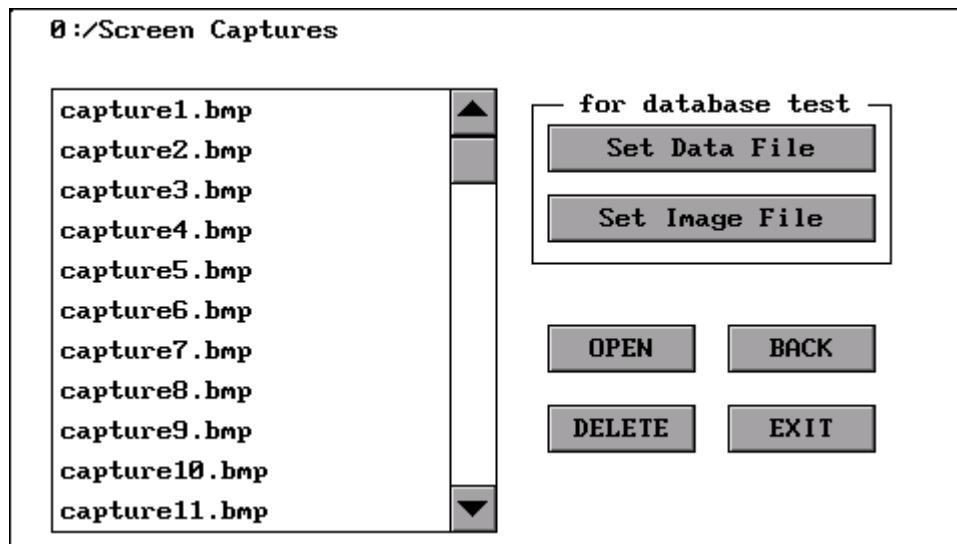

Figure 22. Screen capture folder
**0:/Screen Captures** folder is where screenshots are saved (Figure 22). When the desired file is selected from the list and the **OPEN** button is pressed, the picture file is displayed in full screen.